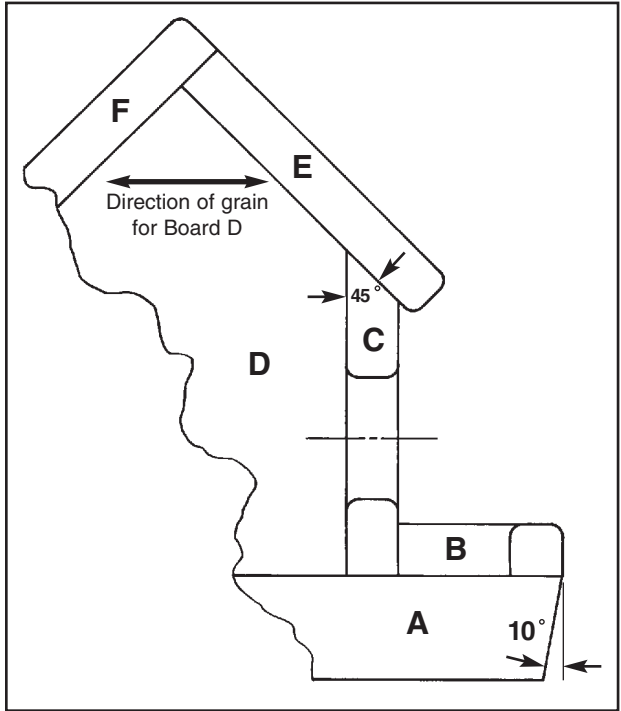

Figure 1
(see Figure 1)
1. Cut out all parts. Refer to Cutting Schedule, Isometric, Figures 1 and 2 and Patterns 1 and 2. Note that ark base (A) is cut out with a 10° bevel around the edges and deckhouse sides (C) have a 45° bevel on the top edge.
3. Attach rails (B) to base (A) using glue and 1 $1/4$ " finish nails. Refer to Isometric, Figures 1 and 2 and Patterns 1 and 2.
5. Attach roof board (E) to roof board (F) using glue and 1 $1/4$ " finish nails. Refer to Isometric and Figure 1.
6. Route a $3/8$ " radius on all all exposed (when assembled) edges of boards (B), (C), (E), (F) and (G).